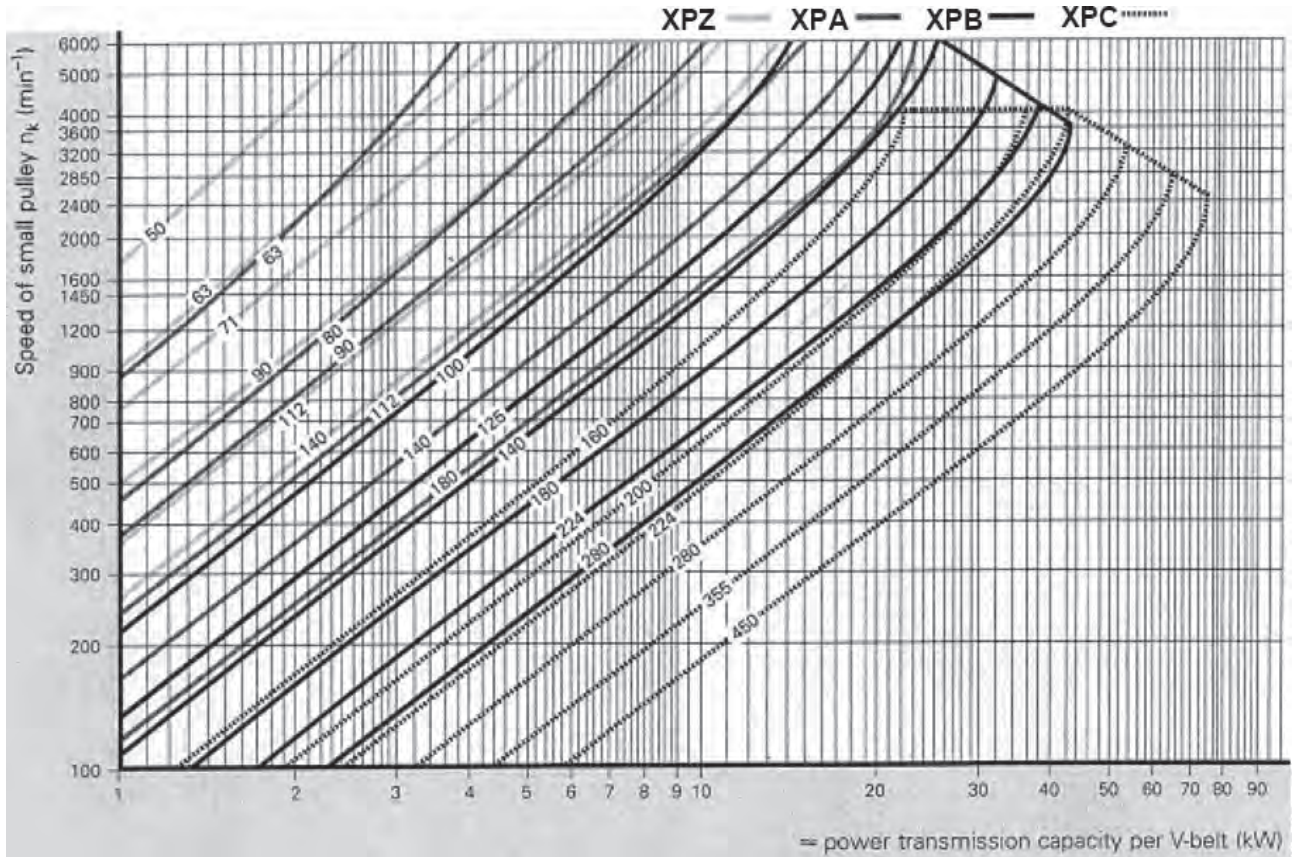
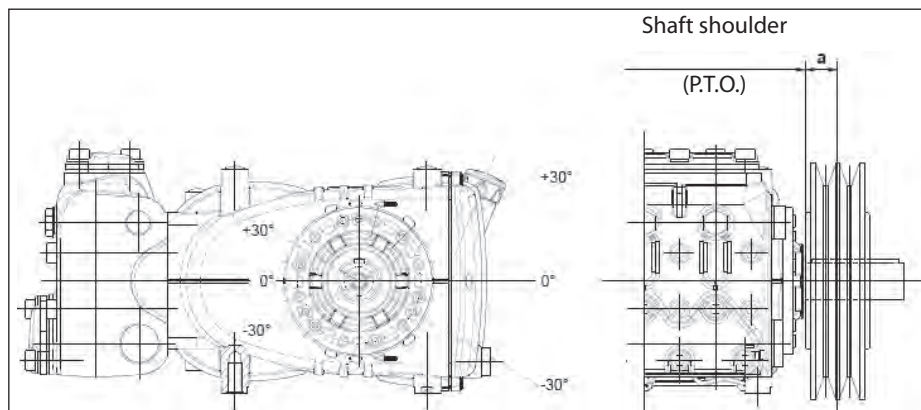

Fig. 7
Fig. 10
The pump can be controlled by a V-belt system. For this pump model, we recommend use of 2 XPB belts (16.5x13 serrated). Use an XPC profile only for long durations. Both the characteristics and transmissible power of each belt can be verified in the diagram in Fig. 7, in relation to the number of rpm normally declared by the manufacturer. Minimum duct pulley diameter (on pump shaft): ≥ 160 mm. The radial load on the shaft must not exceed 3000 N (value necessary for Layout definition). The transmission is considered adequate if the load is applied to a maximum distance $a=30$ mm from the shaft shoulder (P.T.O) as shown in Fig. 10.
- b) Use high performance belts – for example **XPB** instead of **SPB** – as a lower quantity of belts for the same transmitted power may be necessary and a consequent shorter resulting distance compared to the shaft shoulder (P.T.O.) “a” of Fig. 10.
- e) Follow the direction of the belt pull as shown in Fig. 10 for other needs, contact our **Technical** or **Customer Service Departments**.